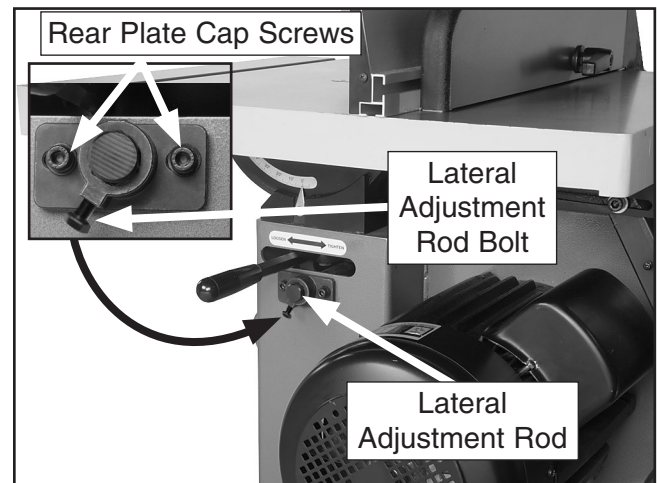

Figure 10. Lower blade guide (rear view).
3. Remove the cap screws on the lower guide block rear plate (see **Figure 10**), loosen the bolt retaining the lateral adjustment rod, then remove the rear plate.
—If the blade is not perpendicular to the support bearing, loosen the lateral adjustment rod screw and rear plate cap screws (**Figure 10** on **Page 3**) and rotate the lower guide block assembly side-to-side until the face of the support bearing is perpendicular to the blade, then re-tighten the screws.